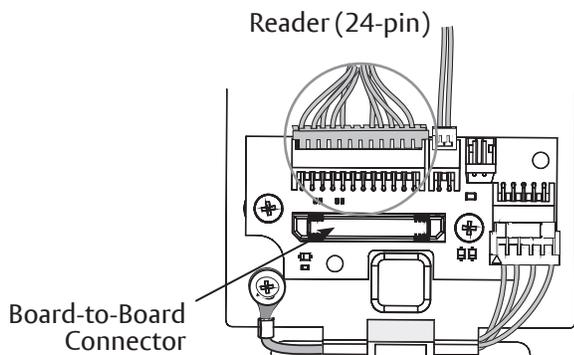

Figure 19b
4. Secure 24-pin card reader connector (Figure 19b).